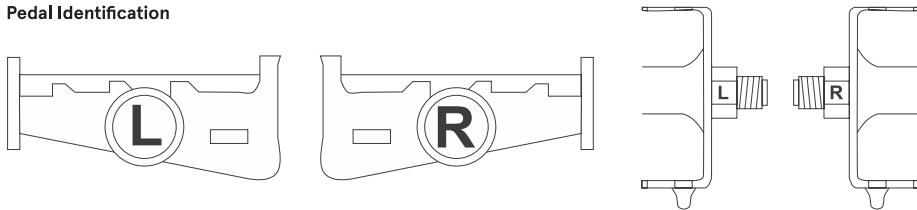

Fig. 8
Step 5: Installing Pedals (Refer to Fig. 8)